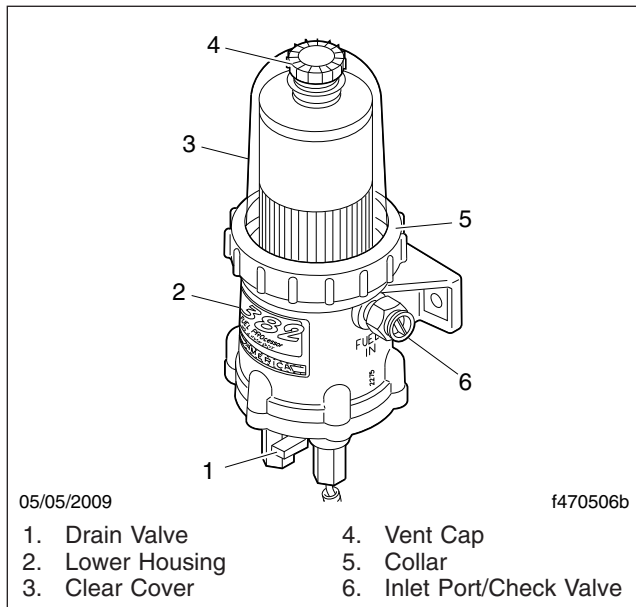

Fig. 24.2, DAVCO Fuel Pro 382
3. Remove the vent cap (**Fig. 24.2**, Item 4) and open the drain valve (**Fig. 24.2**, Item 1) to drain the fuel to just below the collar level, then close the drain valve.